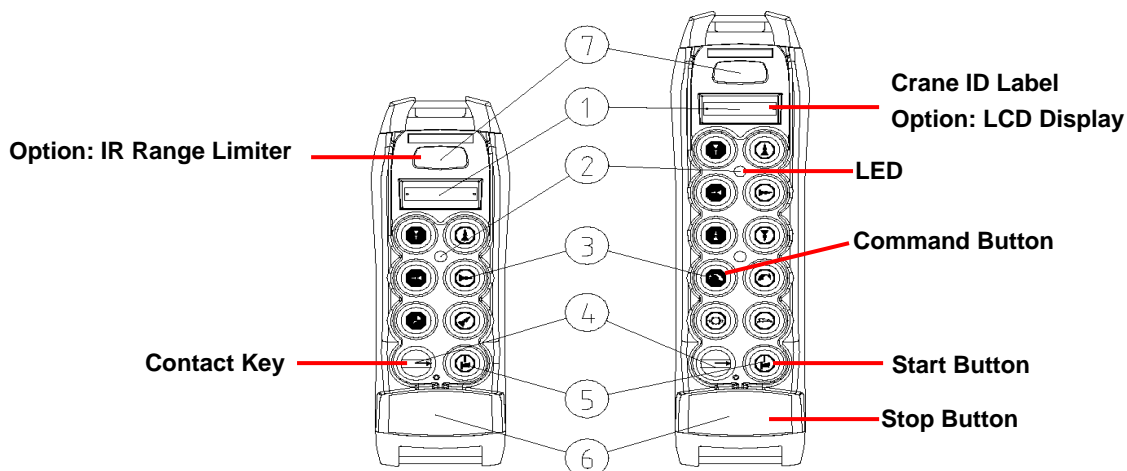

Figure 8. TM70 Transmitter Details
2. Turn the transmitter (Figure 8) **ON** to OPERATION Mode as follows:
- c. Push in and then pull out the **STOP Button**. The transmitter LED flashes orange once, and then illuminates green for three (3) seconds. If the transmitter has an LCD, it displays the identification of the machine and the battery level.